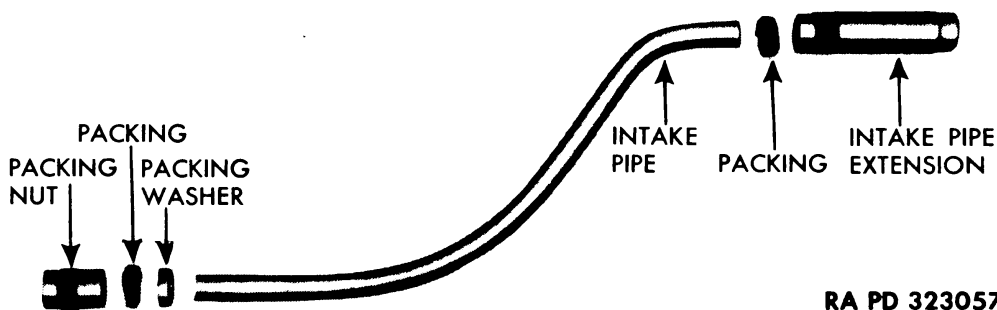

Figure 56 — Transmission Oil Pump Intake Pipe Components
b. **Install Oil Pump Intake Pipe.** Slide pipe through hole in rear of transmission case (fig. 52). Install packing washer and packing on pipe. Install packing nut, but do not tighten. Slide pipe through hole in front of case, and install packing and pipe extension (fig. 56). Tighten extension nut at front of case, and packing nut at rear of case.